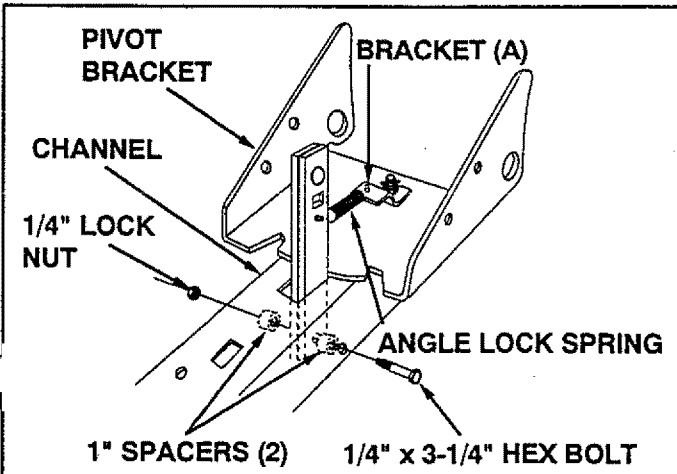

FIGURE 19 (Right Hand Side View)
- Pull on angle lock bars to extend spring just enough to allow insertion of bars down through slot in channel and pivot bracket. Using a 1/4" x 3-1/4" bolt, two 1" long spacers and a 1/4" lock nut, align the two spacers underneath the channel on both sides of the angle lock bars and insert the bolt through holes in sides of the channel and through the angle lock bars and the two spacers. Assemble the lock nut to the bolt on outside of channel. Tighten so that lock bars pivot freely. See figure 19.